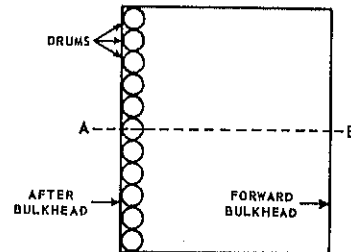

Figure 2A.--Top view of a cargo load.
- 2-18. If the drums in place in figure 2A are not snug against the sides of the ship, how many drums will you need to make up the next row?